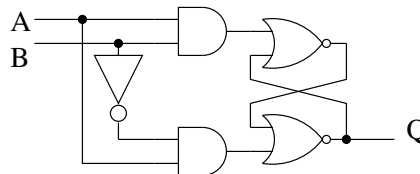

Figure 5.2
2. (8 pts.) Determine the state table for the circuit in Figure 5.2. Which basic memory element does it act like? Hint, one of the inputs is acting like a clock. Additional hint, in order to simplify the analysis, replace a portion of the circuit with a component from this chapter.